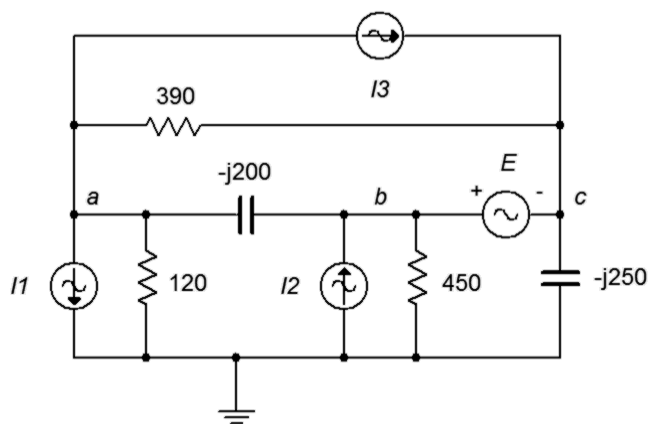

Figure 6.36
71. Given the circuit in Figure 6.36, determine v_{ad} . $I1 = 0.8\angle 0^\circ$, $I2 = 0.2\angle 180^\circ$, $I3 = 0.1\angle 0^\circ$, $E = 15\angle 0^\circ$.